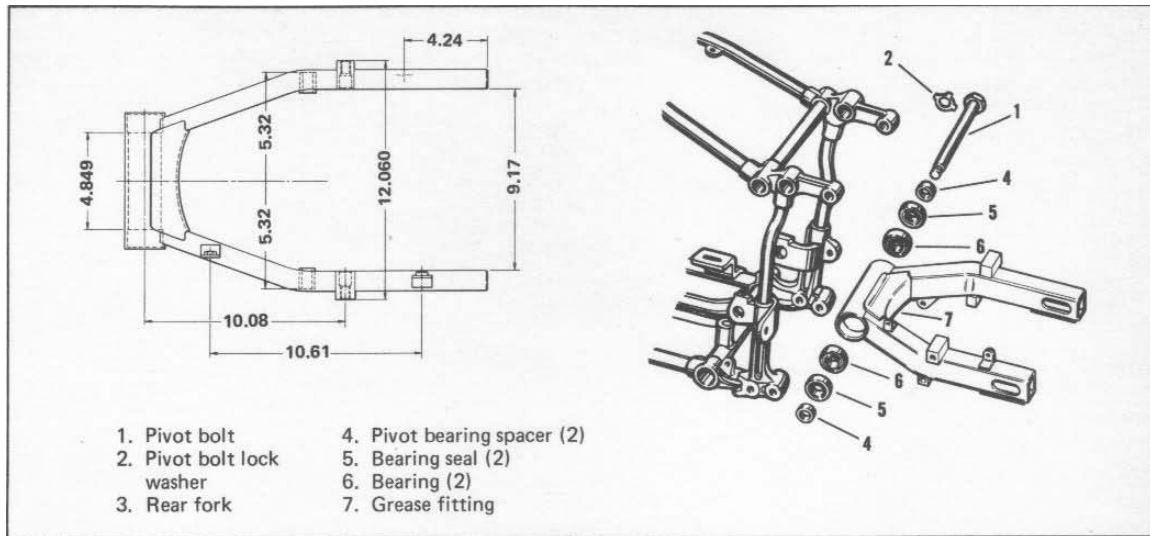

Figure 2-40. Rear Fork — Exploded View
DISASSEMBLING REAR FORK (Figure 2-40)
4. See figure 2-40. Turn back locking ear on pivot bolt lock washer (2) and turn out pivot bolt (1). Remove fork (3) from frame. With appropriate size arbor pin, push out bearing spacer (4), bearing seal (5) and bearing with outer race (6) from each side of fork pivot bearing.
2. Rough check the rear fork for correct alignment. Dimensions shown in figure 2-40 will provide enough information to determine if fork is far enough out of alignment to require realigning or replacement. Straightening a badly bent fork requires special tools and fixtures for holding, bending and gaging.